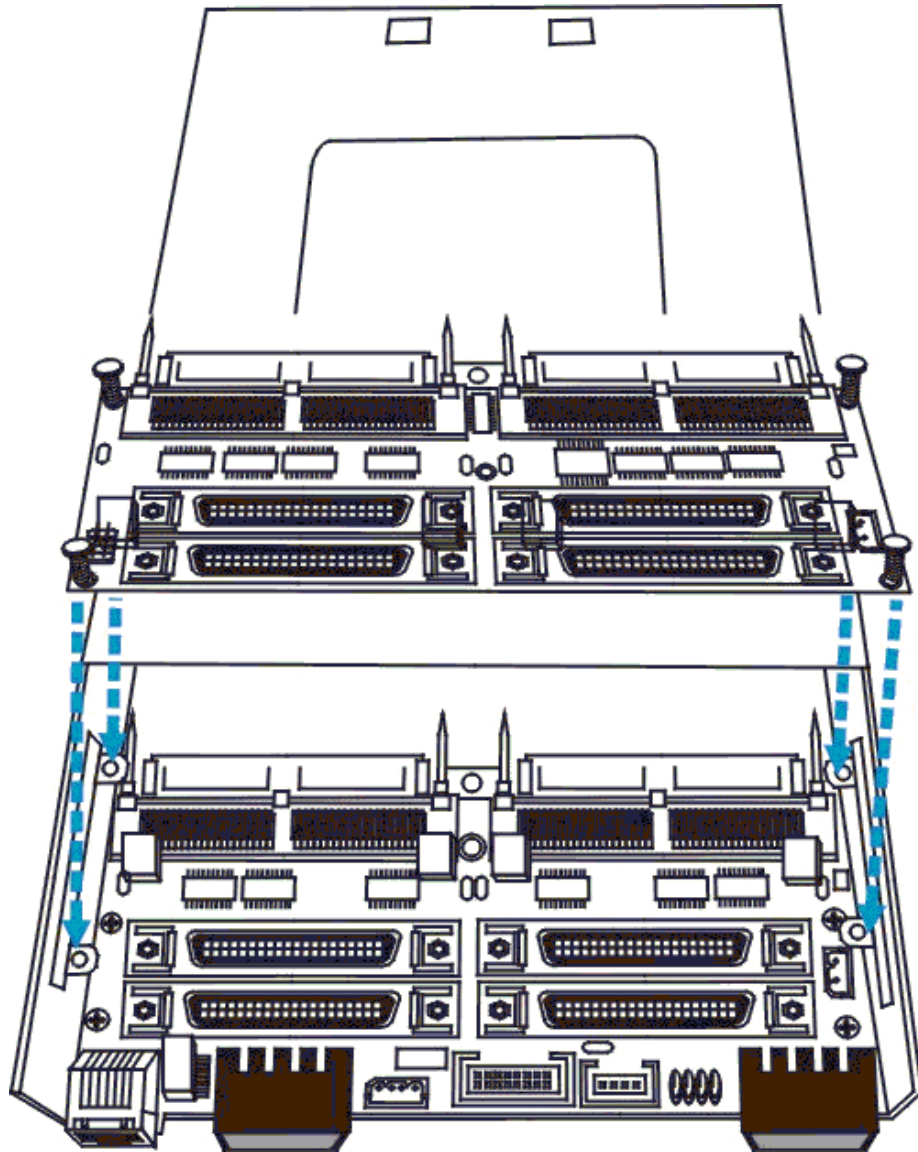

Figure 2-7: Install the daughter board backplane
- Step 2.** ***Install the daughter board backplane*** – The daughter board connects to external interfaces on the daughter board backplane. The daughter board backplane is mounted above the controller board backplane on four small brackets with pre-installed retention screws. Remove these retention screws. Align the retention screw holes on the daughter board backplane with those on the brackets. Reinsert the retention screws ensuring that the daughter board backplane is securely attached to the controller canister. See *Figure 2-7*.